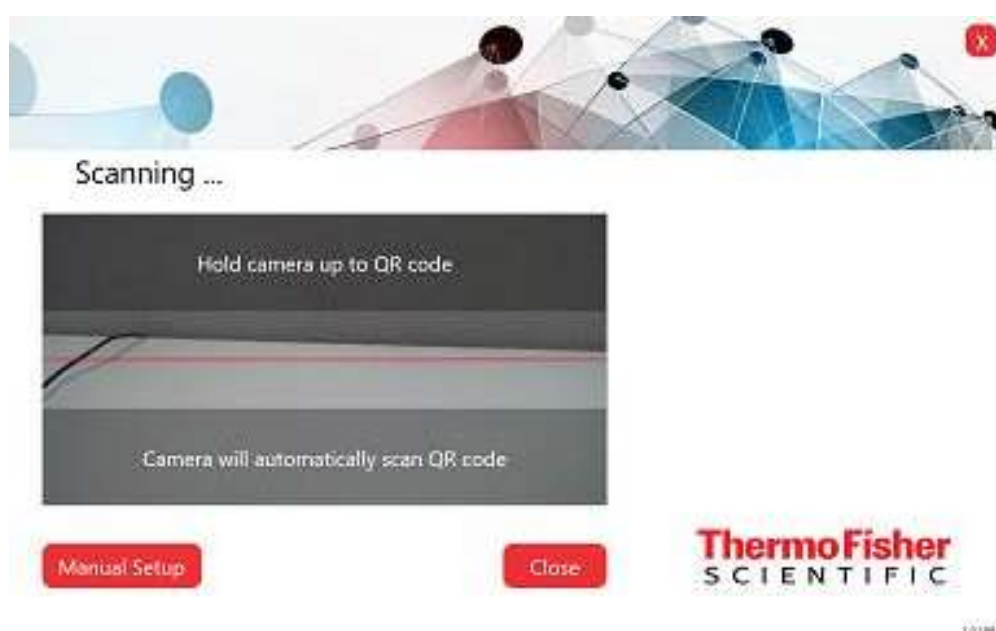

Figure 3-51. Scanning the QR Code
5. When the Scanning window is displayed (see Figure 3-51), prepare to scan the QR code with the tablet camera. To do so, hold the tablet so that the entire QR code is displayed squarely on the tablet. When properly aligned, the QR code is captured and the tablet camera is turned off.